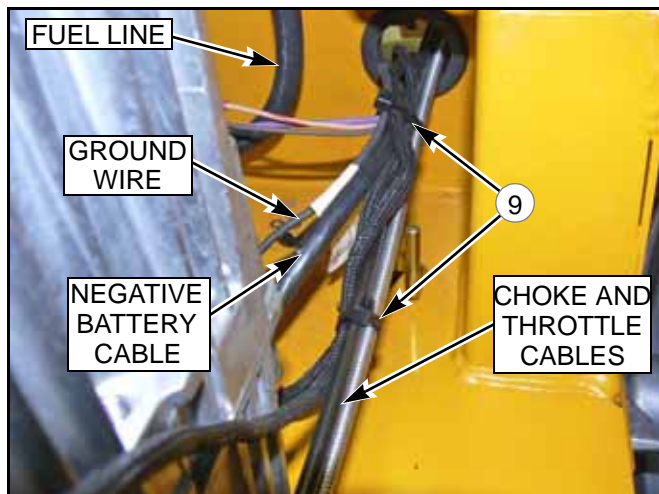
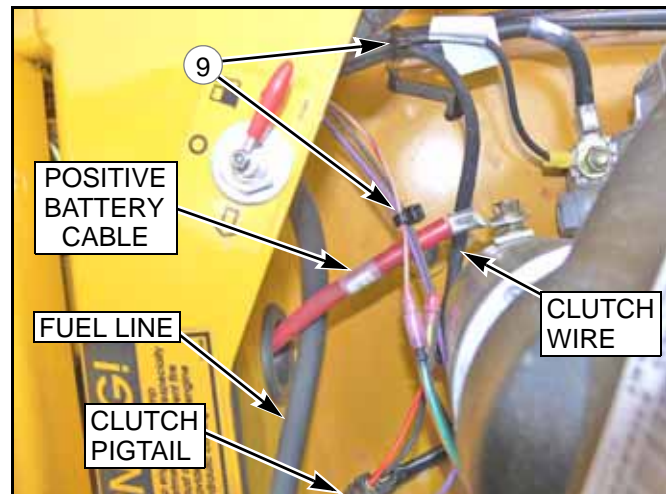

FIG. 2
FIG. 3
1. Wire harness, battery cable, and throttle and choke cable, routing and tie straps (FIG. 2 & FIG. 3) .